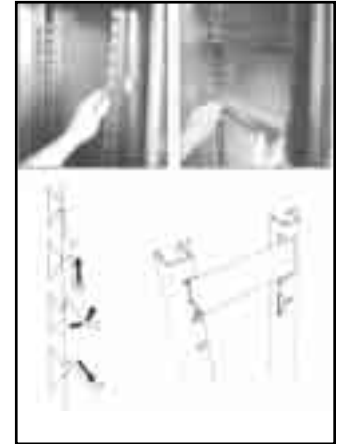

Fig 1
**Interior:** The racking can be removed for easy cleaning (see Fig 1). This should be done on a regular basis with warm water and a soft cloth, dry thoroughly afterwards. To remove the racking and shelf supports follow this procedure: First remove the shelves, then remove the shelf supports by grasping firmly in the center and lifting slightly. Turn the shelf support towards the interior of the cabinet by pushing it in the center as you twist the support through 90°. The shelf support will be released. (Note: the supports are designed to be anti-tilt and you may therefore experience some resistance at first which will be overcome with practice). When all shelves have been removed, remove the racking by lifting up and over the nylon retaining blocks.